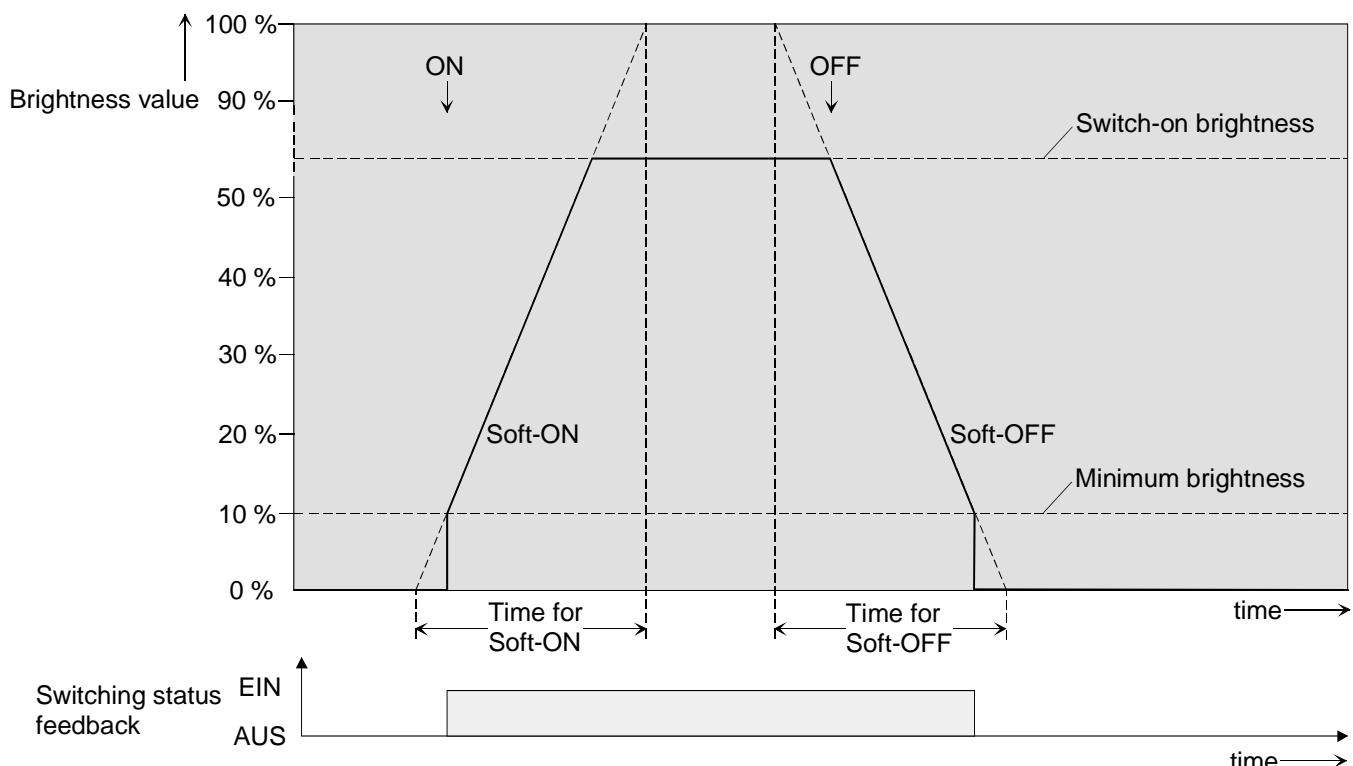

Figure 22: Dimming response of the Soft-ON/OFF functions
If a Soft-ON function is activated, dimming will be executed until the parameterized switch-on brightness has been reached. This will also be the case if the DALI group has been switched on to a brightness value that is smaller than the switch-on brightness value. If a Soft-OFF function is activated dimming will take place after receiving an OFF telegram until 0 % brightness is reached (cf. figure 22).
- ① The dimming of a Soft-ON function starts with the minimum brightness configured in the ETS plug-in. If a DALI group is switched off (brightness value = 0 %) and then switched on, the group will jump to the parameterized minimum brightness and will start the Soft-ON dimming with the switch-on brightness (cf. figure 22).